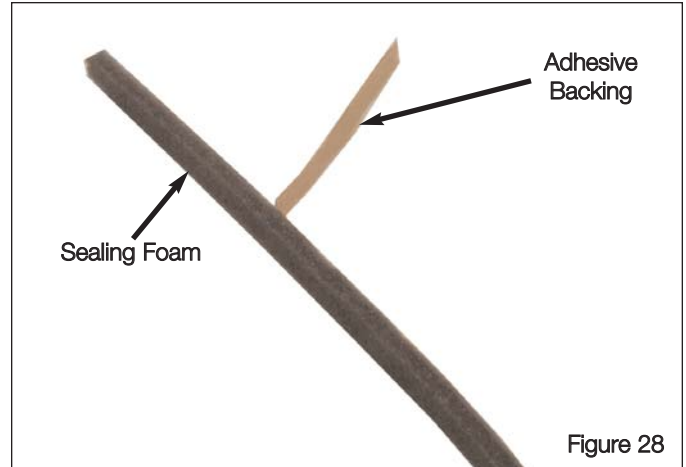

Figure 28
- d. Peel the protective backing from the new Doctor Blade Sealing Foam, and position it so that the notches on each end are down toward the toner port. See Figure 28.